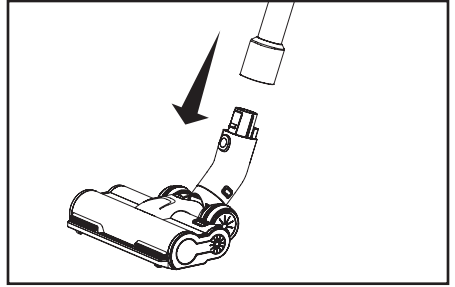

Fig. 1
1. Attach the vacuum nozzle to the metal wand. It will make a clicking sound when securely locked in place (Fig. 1).